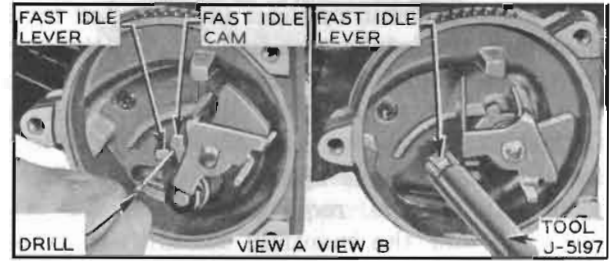

Figure 3-65—Fast Idle Speed Adjustment
3. With choke valve closed and throttle lever held against stop screw, measure clearance between fast idle lever and high step of fast idle cam using a No. 55 drill (.052"). See figure 3-65, (View A).
4. If clearance is wrong, bend fast idle lever as required to correct using Tool J-5197. See figure 3-65, (View B). *Fast idle lever must be*